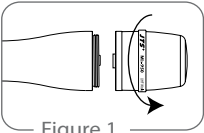

Figure 1
1. Loosen the microphone head counter-clockwise. (Figure 1)